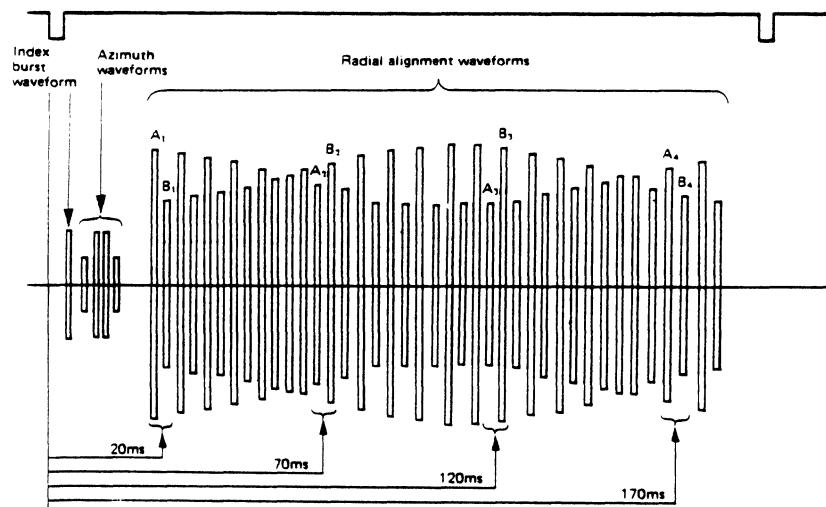

Fig. 9.3 Alignment Waveform (DAD)
- (4) Watch the output waveforms for sides 0 and 1. They should appear as shown in Fig. 9.3.
- (5) Measure the timing levels A₁ to A₄ and B₁ to B₄ in Fig. 9.3, and calculate the lobe ratio from the following formulas.
- (6) The lobe ratio calculated by the above formulas should meet the specifications on item 3 of Table 8.1.
- (7) If the above requirement is not met, loosen the two mounting screws for the stepper motor, adjust.
- (8) Seek from track 0 to track 40 and from track 79 to track 40, and confirm that the adjustment has been complete.
- (9) After the radial adjustment, be sure to confirm track 00 sensor adjustment 9.8 and head carriage limiter 9.9.